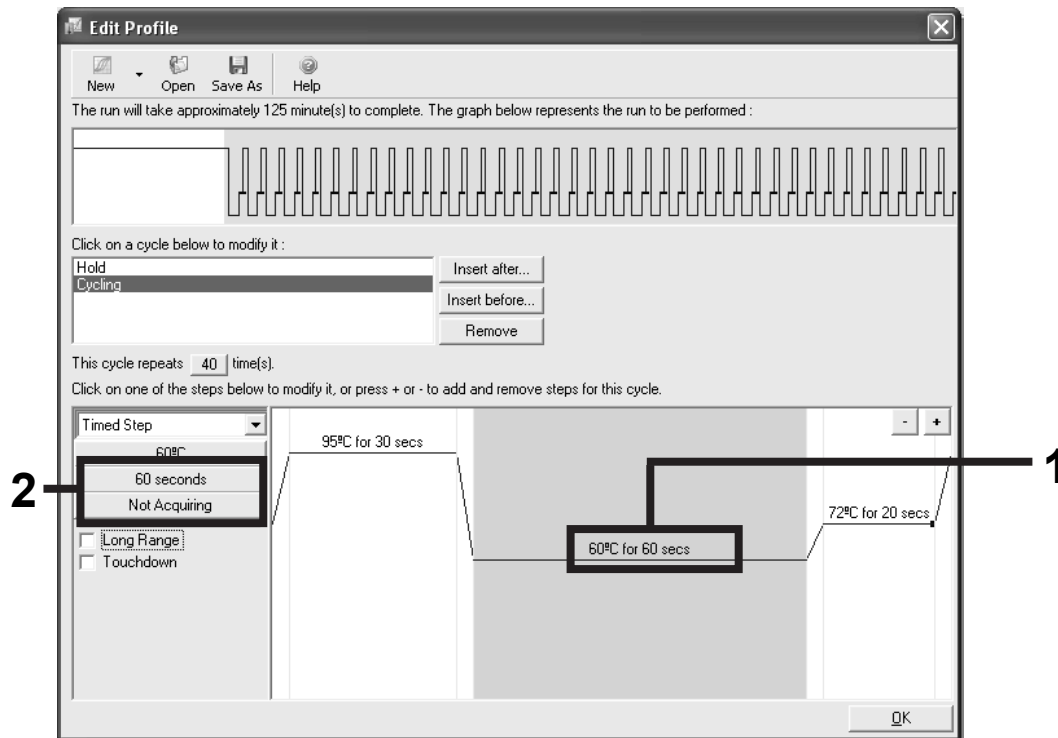

Figure 7. Cycling step at 60°C.
10. Highlight the second step and set to 60°C for 60 secs. Enable data acquisition during this step by selecting the “Not Acquiring” button (Figure 7).